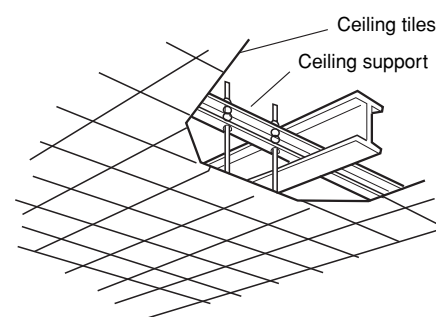

Fig. 3-64
- Use existing ceiling supports or construct a suitable support as shown in Fig. 3-64.